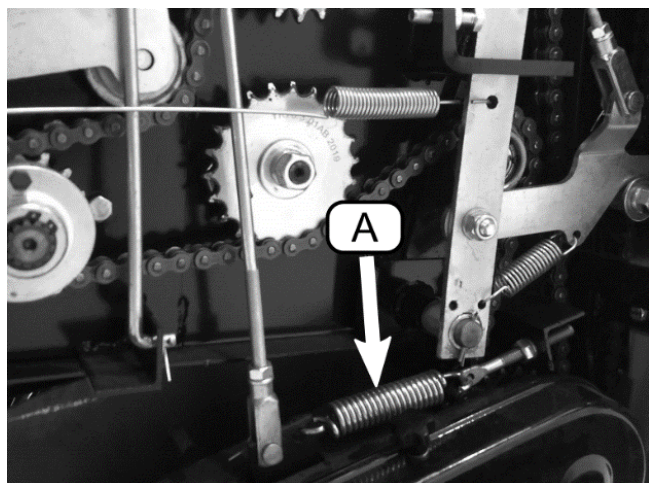

Figure 42 Left side of baler
The pickup is suspended with two (2) springs (Figure 42, A), one on each side. The length of the spring should be approximately **1 7/8 inches (48mm)** when the pickup is released into working position. Tension can be adjusted if necessary by adjusting the position of the nuts (B).